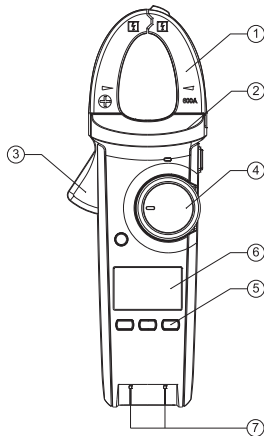

Figure 1
V. External construction (See Figure 1)
"Figure 1" indicates that batter voltage is lower than working voltage, reminding replacing battery.